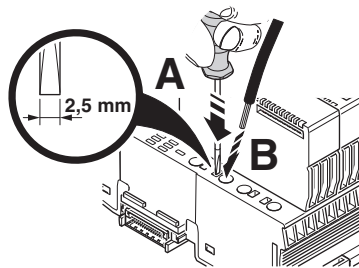

Figure 11-18 Connecting a stranded cable with tools
- Open the spring by pressing the actuation slot with the screwdriver (Figure 11-18, A). Use, for example, a bladed screwdriver with a blade width of 2.5 mm. Phoenix Contact recommends the SZS 0,4x2,5 screwdriver (see Section “Ordering data” on page 130).
- Insert the cable in the terminal point (B).